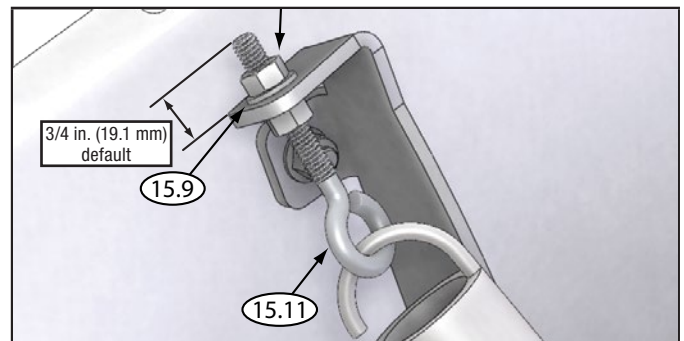

Figure 10 - Spring Adjustment
9. Tighten nuts down on eye bolt until desired spring tension is reached. See Figure 10 for default tension.